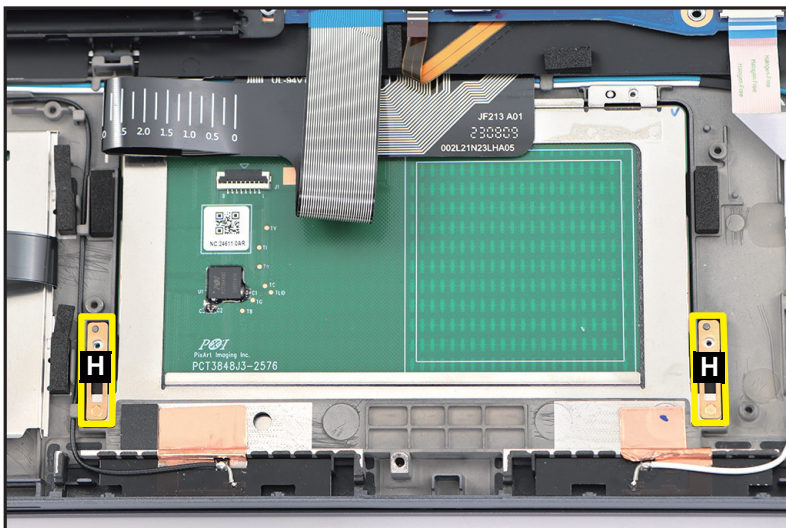

Figure 1-62. Touchpad Module Removal
8. Remove the touchpad brackets (H) from the top assembly (Figure 1-62).